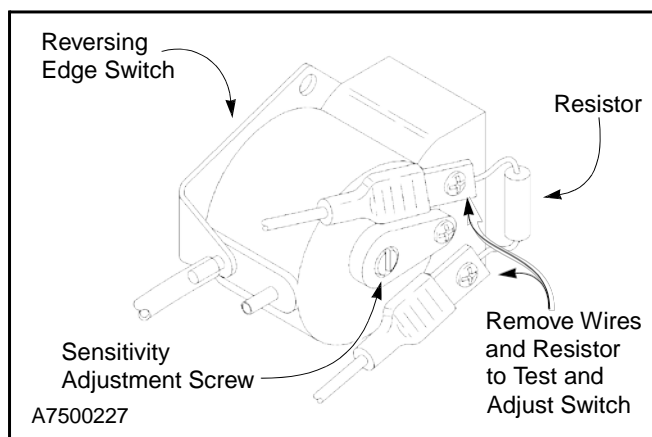

Figure 30
1. The reversing edge switch is a normally open contact. The PVC hose is on the lower air input post. To adjust the switch, first remove the wires and resistor from the contact terminals and attach an ohmmeter across the two terminals. (See Figure 30)
2. Turn the adjustment screw, located on the face of the switch, clockwise or counterclockwise until continuity is achieved. Then turn the screw $\frac{3}{4}$ turn counterclockwise. Ohmmeter should no longer show continuity. Turning the screw counterclockwise decreases sensitivity. Turning the screw clockwise increases sensitivity. (See Figure 30)